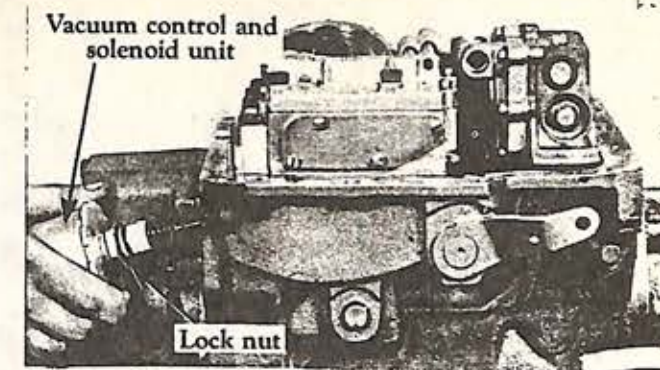

Fig. 28
7. Loosen the vacuum control and solenoid unit lock nut and remove the unit (Fig. 28).